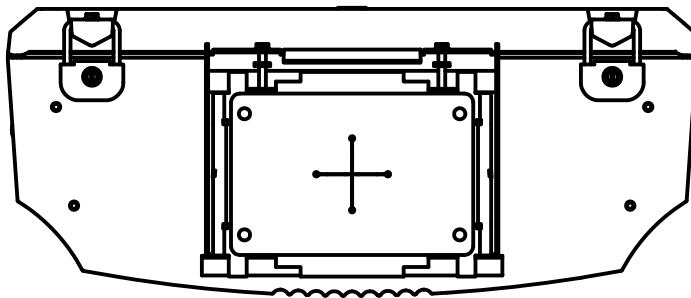

FIGURE. 1
1. REMOVE LUMINAIRE AND MOUNTING PLATE FROM CARTON. PLACE LUMINAIRE ON CARDBOARD OR TOWELS TO PROTECT FINISH. POSITION LUMINAIRE SO CLAMP SCREWS ARE FACING UP. SEE FIGURE 1.